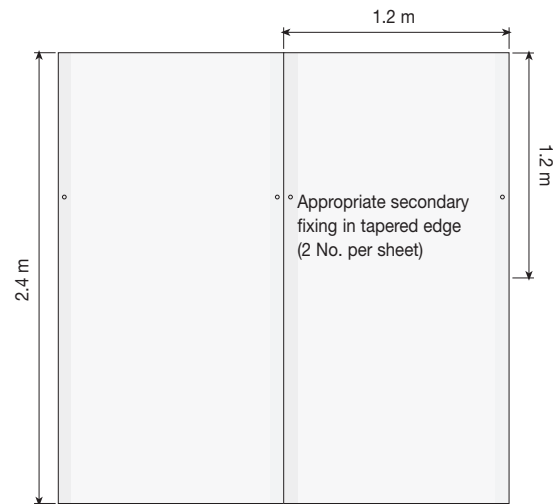

Figure 7 – Appropriate Secondary Fixing Pattern for Acrylic Sealant / PU Foam Adhesive Bonding
Figure 6 – Appropriate Secondary Fixing Pattern for Drywall Adhesive Dab Bonding Using 6 Additional Fixings (See Figure 7 for the Appropriate Secondary Fixing Pattern when using 2 Additional Fixings)
- These are normally applied at a rate of 2 No. per sheet, 15 mm in from the edge of the sheet, after the adhesive has set (see Figure 7).